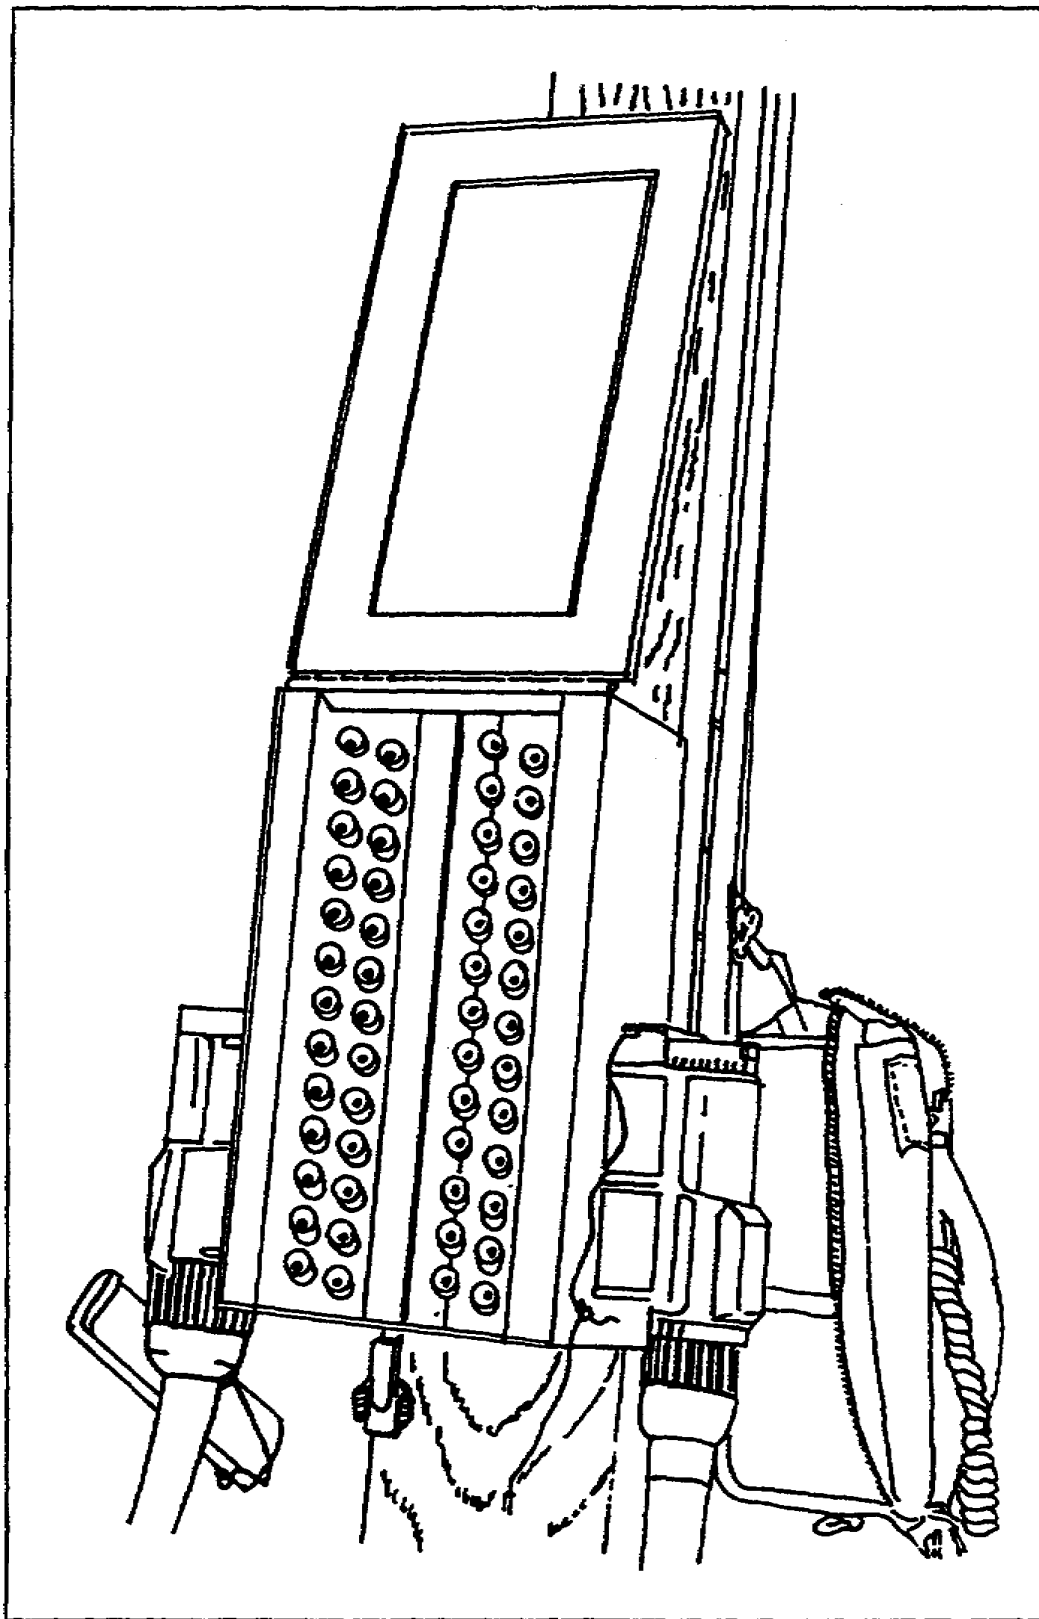

Figure 1-25. J-1077A/U
42. One terminal you might have to install prior to the installation of the telephone sets is a J-1077A/U. This junction box has terminals inside for 26 pairs of wires. To connect a 4-wire telephone you would connect the transmit wires to the odd terminals (1, 3, 5, 7, and so forth) and the receive pairs to the even terminals (2, 4, 6, 8, and so forth). However, you do not want to split the installation. If you are installing a telephone set TA-838()/TT, you would put the transmit wires to terminals 1 and the receive wires to terminals 2. Then the next telephone would go transmit to 3 and receive to 4. Do this until you have installed 12 4-wire telephones. The other terminals are to be used by the installer for troubleshooting or to replace a bad pair. The J-1077A/U is normally used with multiple subscriber equipment. (See Figure 1-25.)